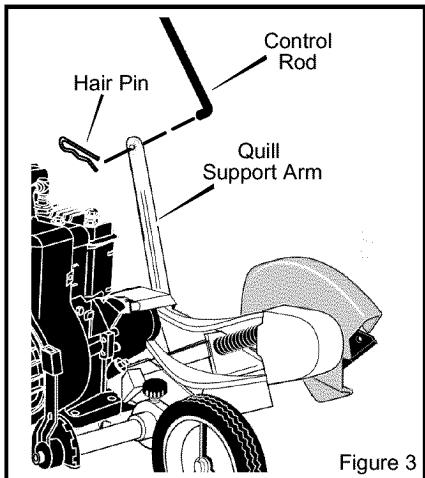

Figure 3
3. Insert the end of the **control rod** from left to right through the hole in the **quill support arm**. Attach with **hair pin** found in parts bag. See Figure 3.